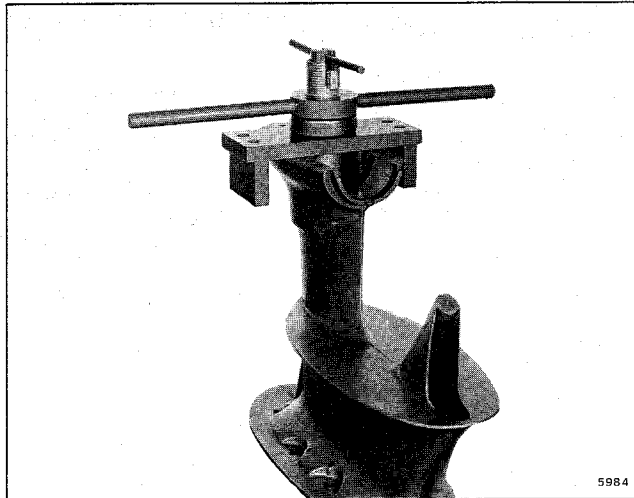

Figure 6-25. Removing Pinion Bearing
f. Remove driveshaft pinion and thrust bearings using puller kit (Special Tools #378445, adaptor sleeve #308097, and puller jaw #308094). See Figure 6-25.